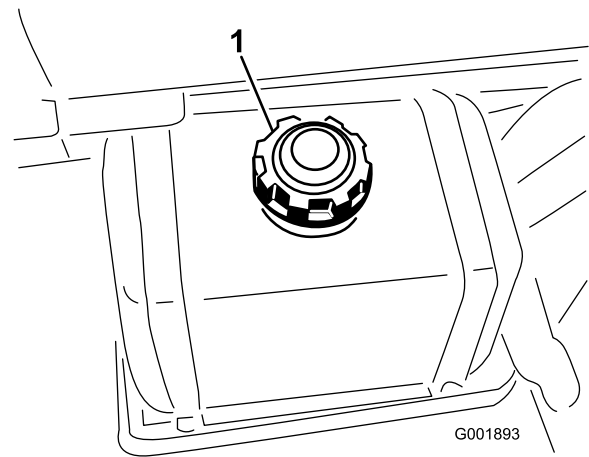

Figure 22
2. Clean the area around the fuel tank cap (Figure 22).